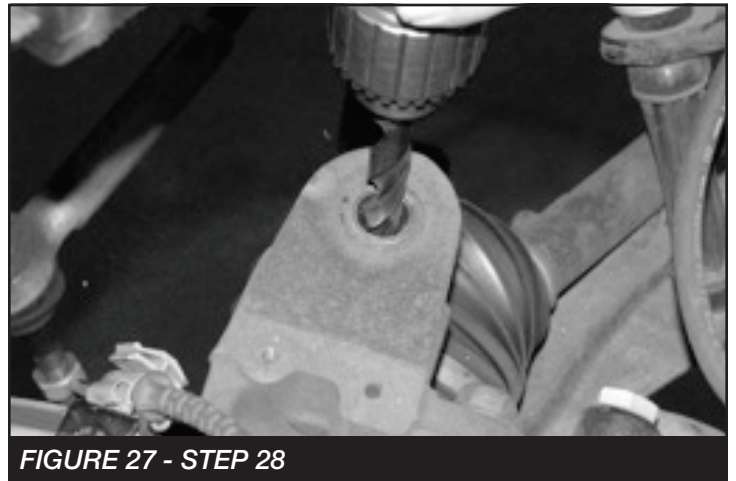

FIGURE 27 - STEP 28
28. Using a 1/2" drill, chase out the end of the upper ball joint taper on the spindle. **SEE FIGURE 27**